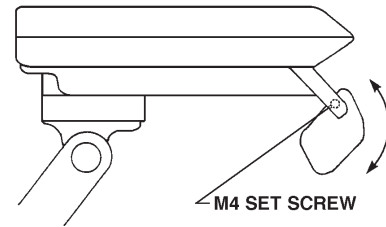

Fig.3-10 Handpiece Holder Angle Adjustment Set Screw
(5) Handpiece Holder Angle (Fig.3-10)